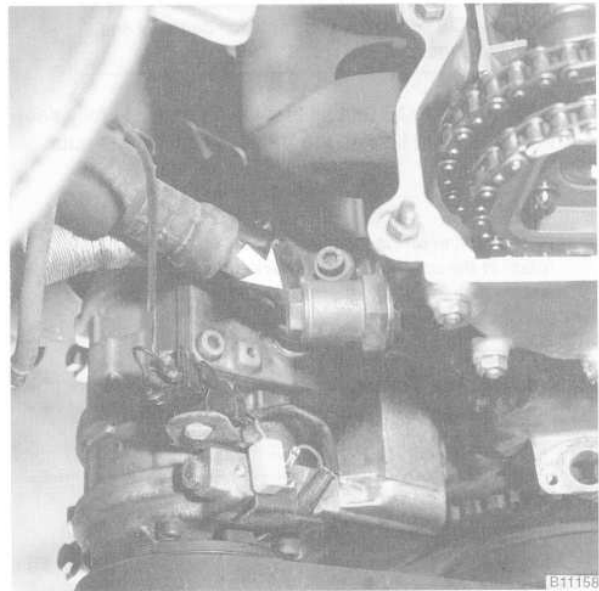

Fig. 40. Primary timing chain tensioner (arrow).
- Remove the primary timing chain tensioner from the side of the cylinder head. See Fig. 40. Install BMW special tool no. 11 3 390 into the primary timing chain tensioner sleeve. Thread the tool in finger tight until the slack is removed from the chain.